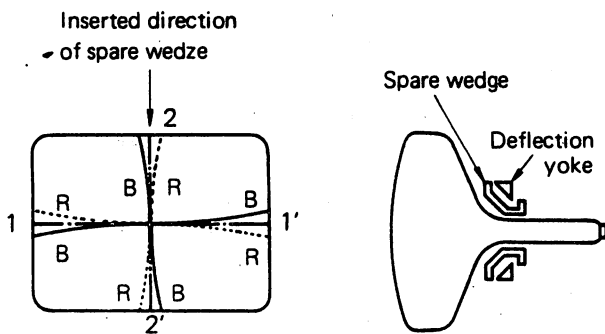

Figure 5-17
- a. Tilt the deflection yoke upward or downward by turning the adjustment handle of the deflection yoke so that the misconvergence between the red and blue vertical cross-hatch lines at 1 and 1', and that between the red and blue horizontal cross-hatch lines at 2 and 2', are minimize as shown in Figure 5-17.